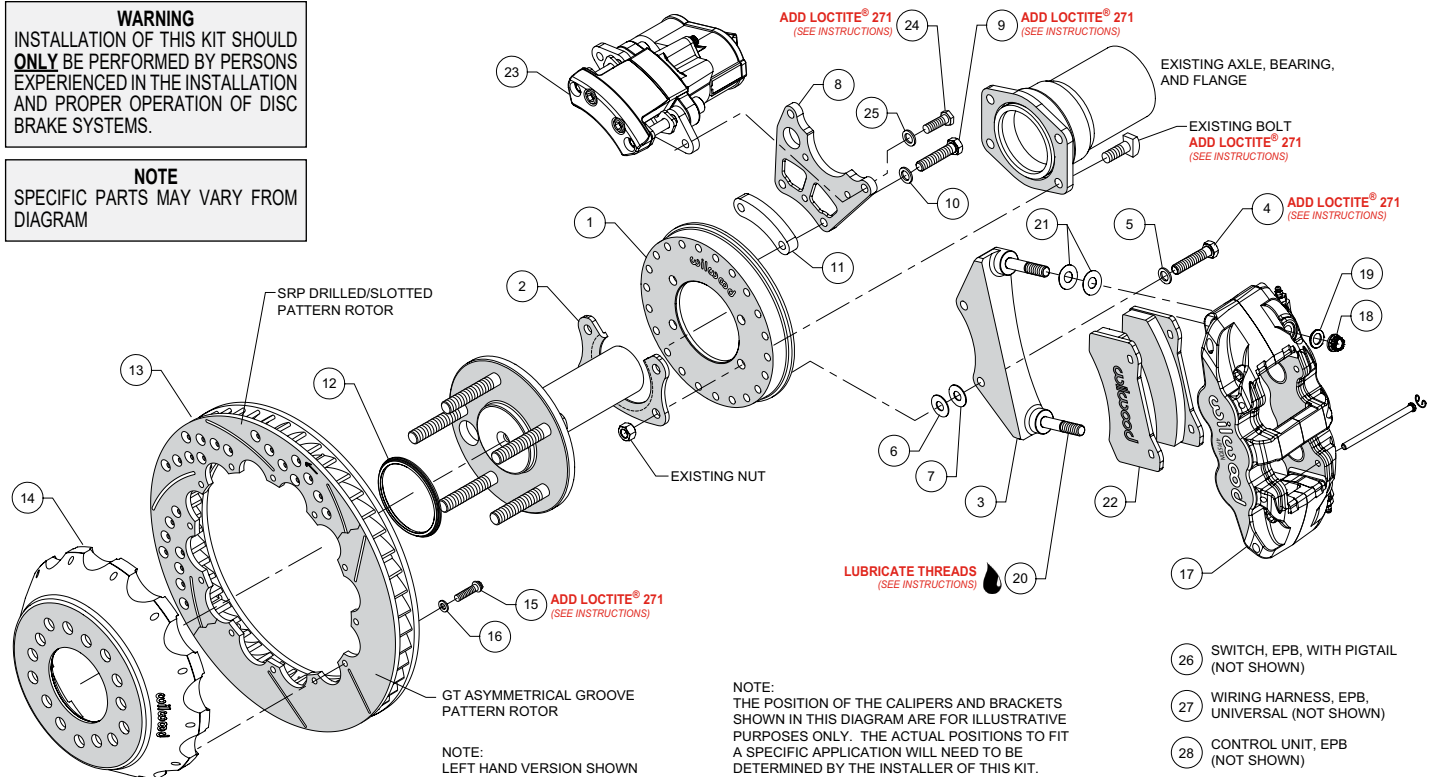

Figure 1. Typical Installation Configuration
NOTE: Numbers in parenthesis refer to the parts list, and Figure 1 on the preceding pages.
- Orient the backing plate (1) as shown in Figure 1 and Photo 1, and slide it onto the axle housing flange. Ensure the backing plate fits flush against the axle housing flange. Reinstall the axle into the axle housing.
- Install the bearing retainer (2) with the opening pointing upward and the lip facing inward (toward the bearing), as shown in Figures 1 and 4, and Photo 2. Secure retainer and backing plate to the axle housing flange using the Original Equipment Manufacturer (OEM) bolts and nuts, Figure 1 and Photo 3. Apply red *Loctite*® 271 to the OEM bolt threads and torque to OEM specifications.